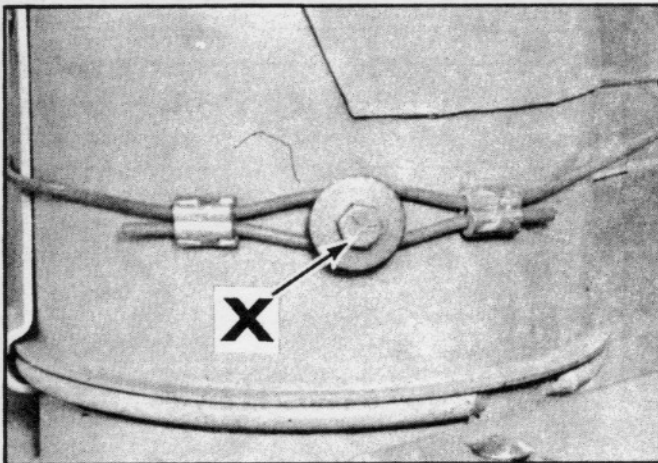

Fig. 24
Loop both ends of stack control cable over bolt (X) as shown in (Fig. 24).